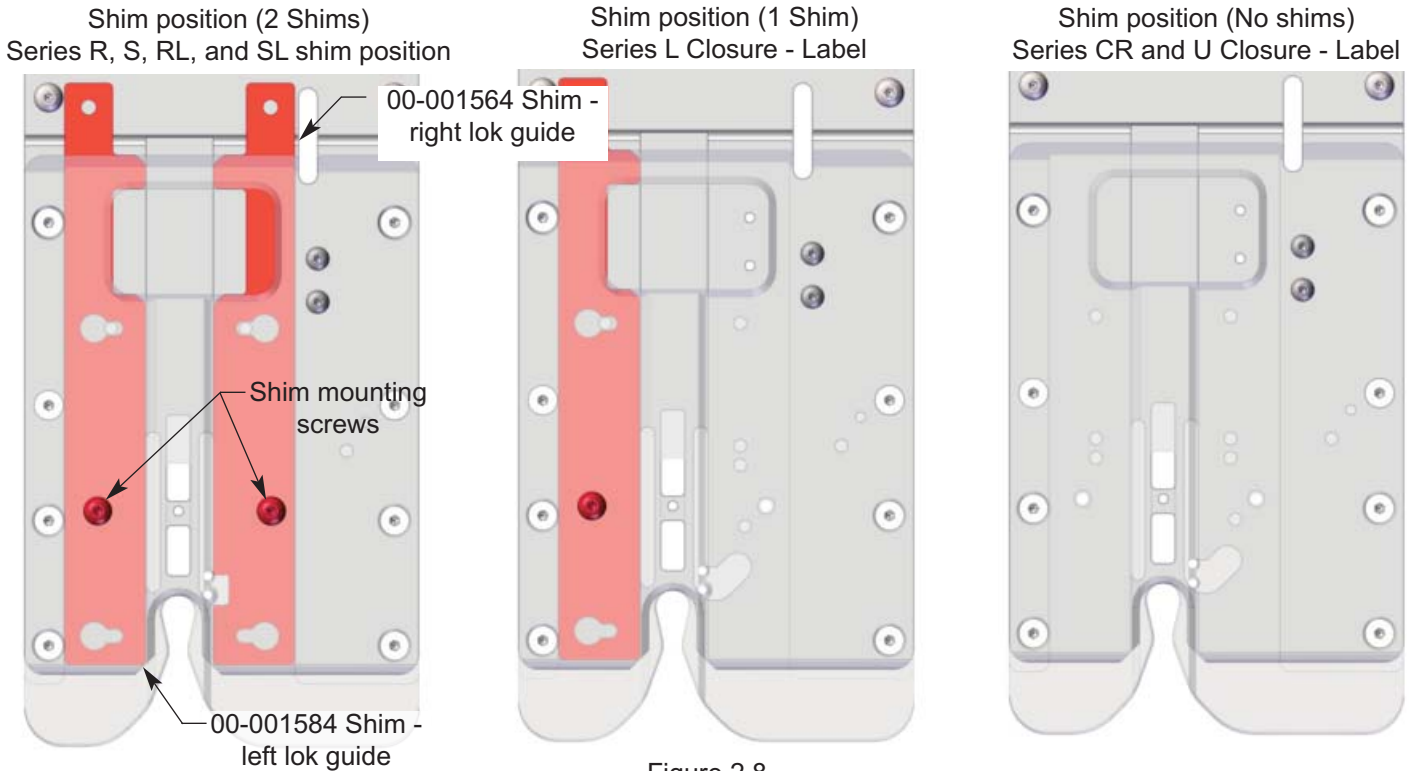

Figure 2.8
2. From the front of the closer, identify and remove the right M5 button head screw securing the right lok guide shim to the track (Figure 2.8 Shim Position Series L Closure - Label). There are two threaded holes in the closer stand to keep unused M5 screws.
2. Remove both shims (Figure 2.8 Shim Position Series CR and U Closure - Label) and hang them on the studs located inside of the closer stand.
1. Remove the two M5 screws securing the two shims (Figure 2.8 Shim position Series CR and U Closure - Label). There are two threaded holes in the closer stand to keep unused M5 screws.